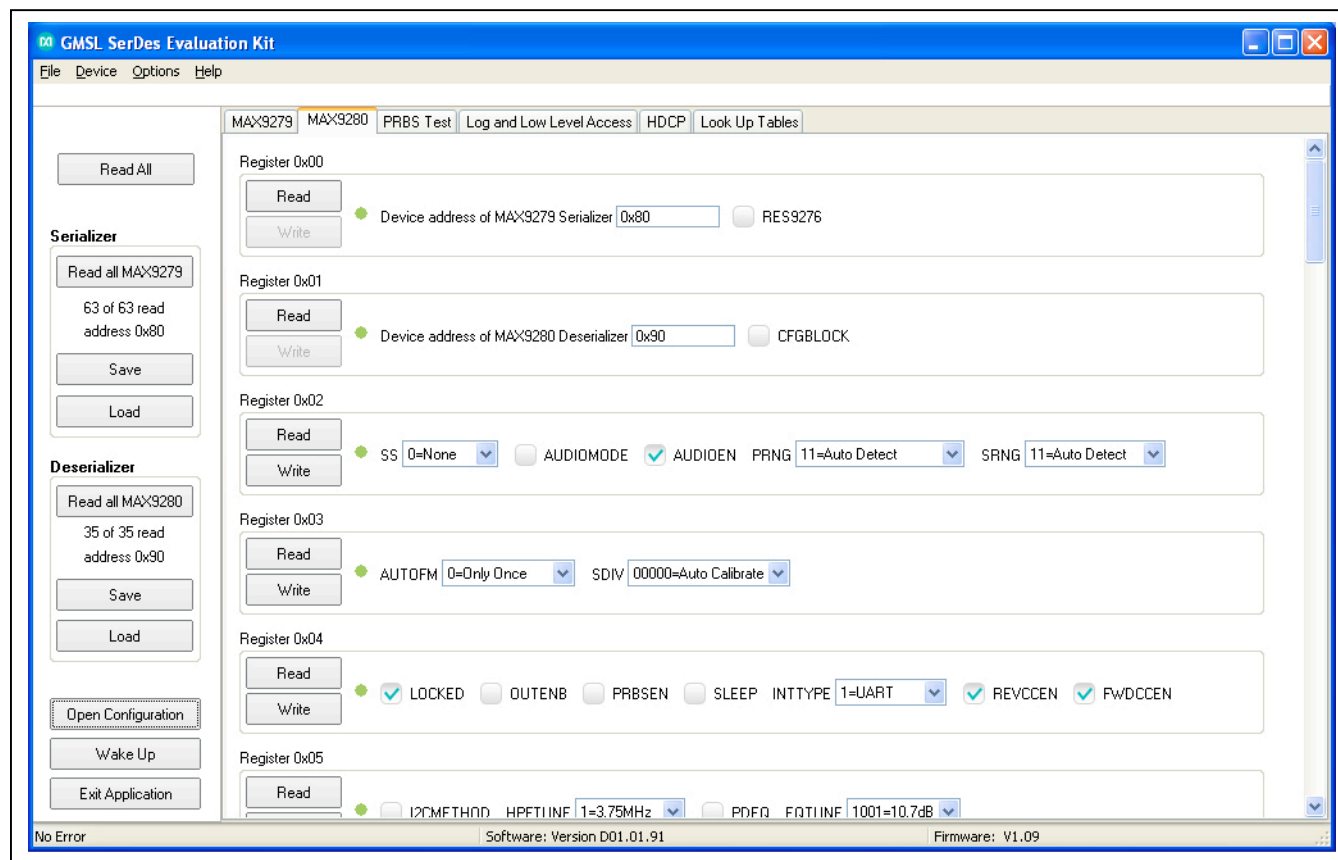

Figure 3. MAXSerDesEV-N EV Kit Software: Evaluation Kit Window (MAX9280/80A Tab)
- 21) Click on the **Deserializer** tab (Figure 3) and then press **Read all MAX92xx** in the **Deserializer** group box to read all deserializer registers.
The **MAX9280/80A** tab (Figure 3) lists the deserializer's registers and bitmaps. Read and Write buttons in each register group box allows read/write access for each bit (or group of bits) that specify a function or condition, as